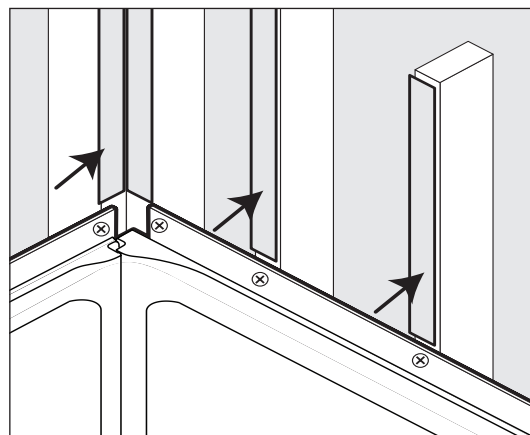

FIGURE 10. Shim studs.
- Shim studs with lattice strips or 1/4" luan so that finishing board will overlap nail flanges. (Fig. 10)